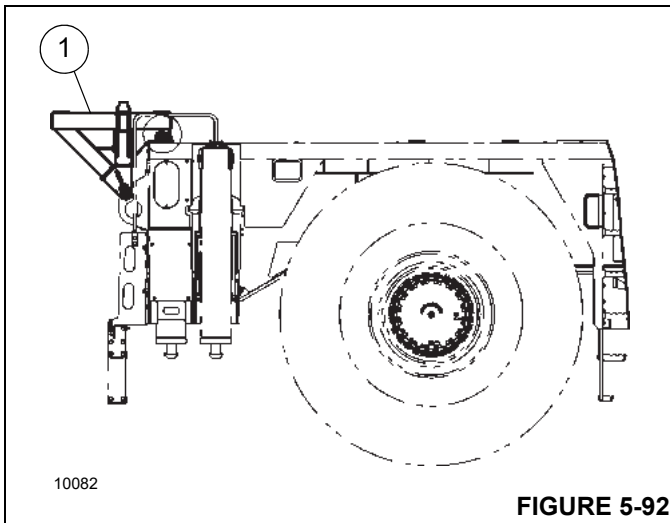

FIGURE 5-92
3. Make sure counterweight support (1, Figure 5-92) is securely attached at rear of carrier.